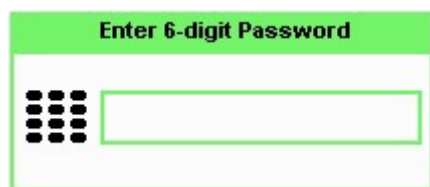

Figure 2-49 Enter 6-digit Password pop-up
- 3 Press **Secure Blank**. The Enter 6-digit Password pop-up will appear as shown in Figure 2-49. You need to enter a 6-digit password upon activating the secure blank feature.
- 5 If the entered password is not made up of six digits, a warning message will appear as shown below. This warning will appear for two seconds before the enter password pop-up (Figure 2-49) re-appears.
- 7 If the password entered is different from the initial password, a warning message will appear as shown in Figure 2-52. This warning will appear for two seconds before the Reconfirm Password pop-up (Figure 2-49) re-appears.